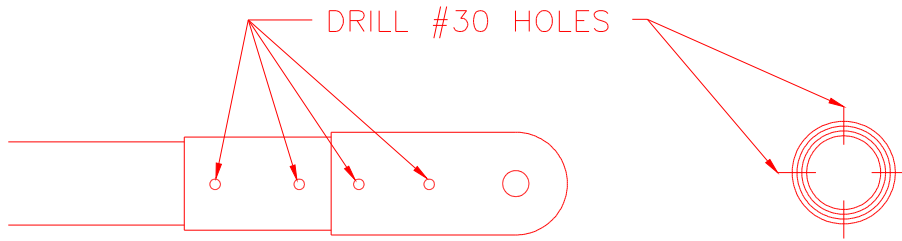

Figure 15.3.2
- 1) Attach two LG-32, one LG-41 'Drag Brace Gusset' and one axle assembly to the bottom end of each main gear leg assembly, with AN5 bolts as shown in Figure 15.3.2. You will notice that the holes in LG-41 are off center. This is done so the sides of the LG-41 parts lie flat with the edges of the LG-32 gusset.
- 4) On the lower slide tube assembly (LG-43) layout and drill four rows of four #30 holes as in Figure 15.3.2.